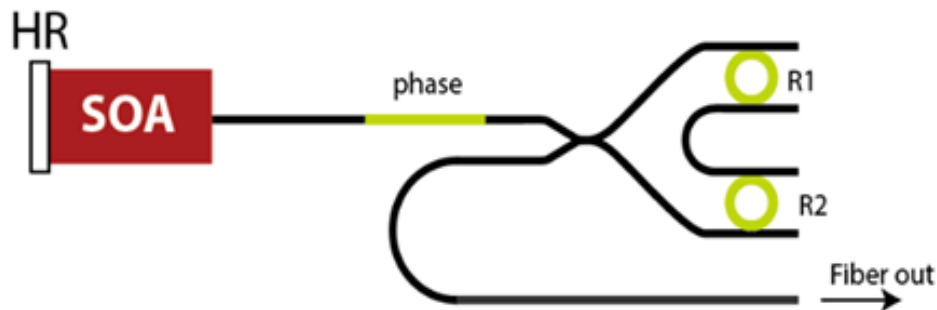

Figure 1 Schematic layout of the laser
The main concept of the laser is shown in Figure 1. The gain chip, which contains the SOA, has a high-reflective (HR) coating on the left-hand side and an anti-reflective interface on the right-hand side where it is connected to a TriPleX™ silicon nitride waveguide chip. The waveguide circuit contains two micro-ring resonators (MRRs), indicated as R1 and R2 with slightly different free-spectral ranges (FSRs) to ensure stable single frequency operation by using the Vernier effect. There are three heaters positioned, one to control the phase of the light in the cavity and two to control the resonant wavelengths of the ring resonators R1 and R2. The laser's frequency can be tuned over a large range by tuning the MRRs.